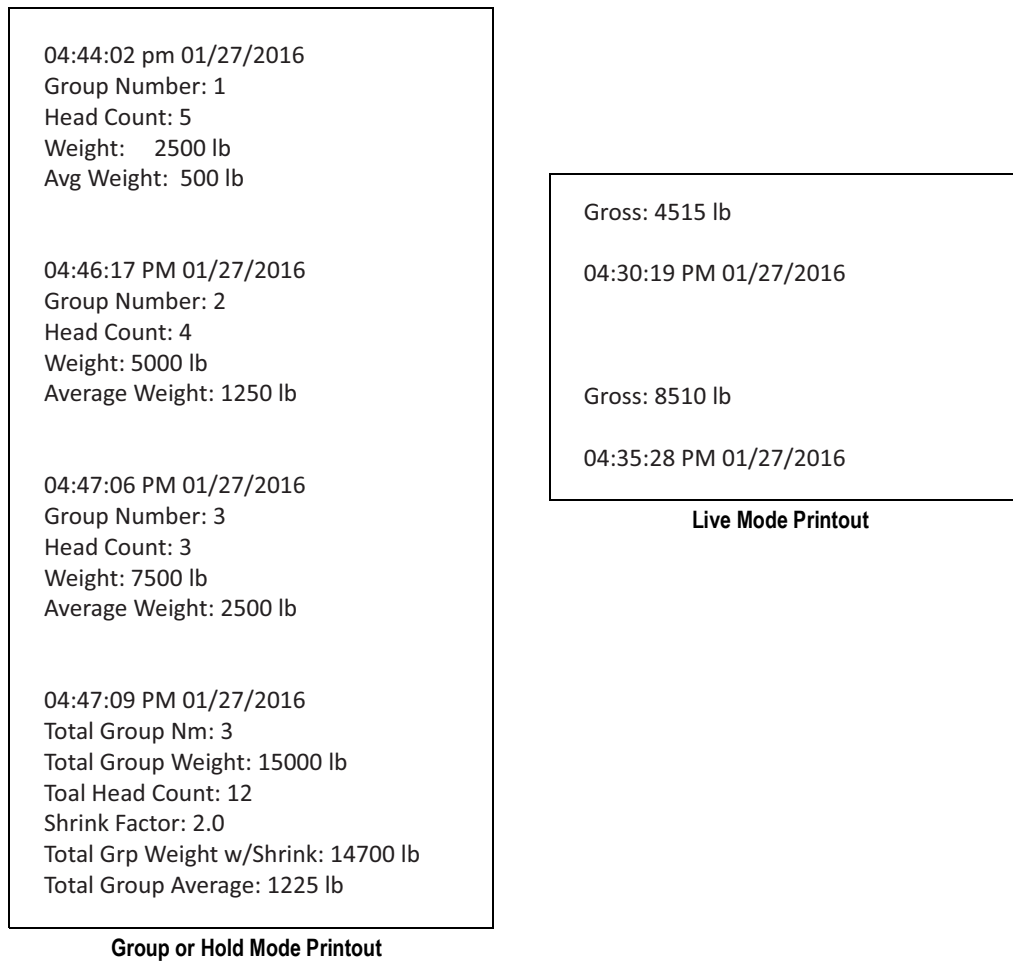

Figure 5-1. Ticket Print Examples
7. When all groups for a load are complete, press  and the load ticket data will be sent to the serial port. See Figure 5-1 on page 39.
When live mode is enabled, the indicator always displays the current scale weight. Press  to send the data to the serial port, see Figure 5-1.
7. When all groups for a load are complete, press  and the load ticket data will be sent to the serial port, see Figure 5-1 on page 39.